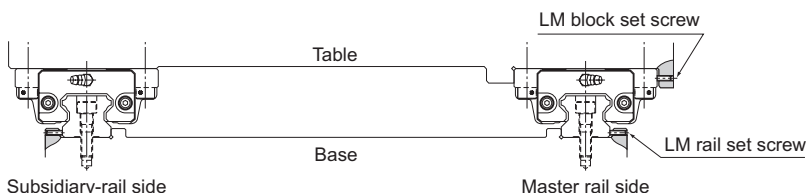

Fig.1 When an Impact Load is Applied to the Machine
- (1) Gently place the table on the LM blocks and temporarily fasten the mounting bolts.
- (2) Press the master side LM blocks to the side reference surface of the table using set screws and position the table. (See Fig.1 on A-340.)
- (3) Fully fasten the mounting bolts on the master side and the subsidiary side to complete the installation.